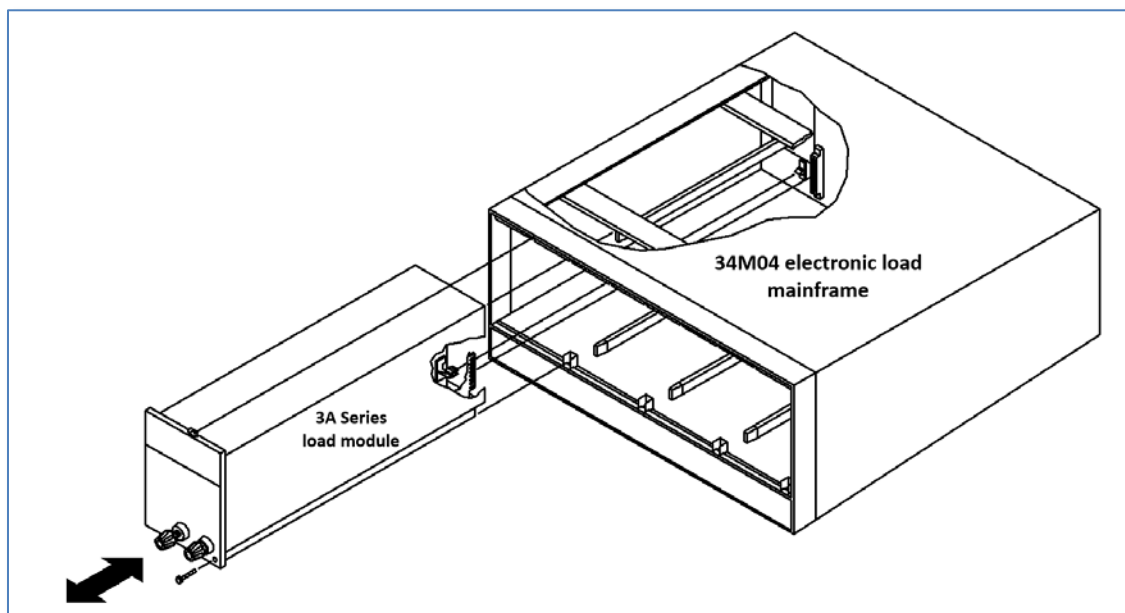

Figure 5-1: Installation or removal of a load module
3. As shown in Figure 5-1, push the load module into the mainframe by pressing against the two load input terminals on the front panel until the module is fully seated.